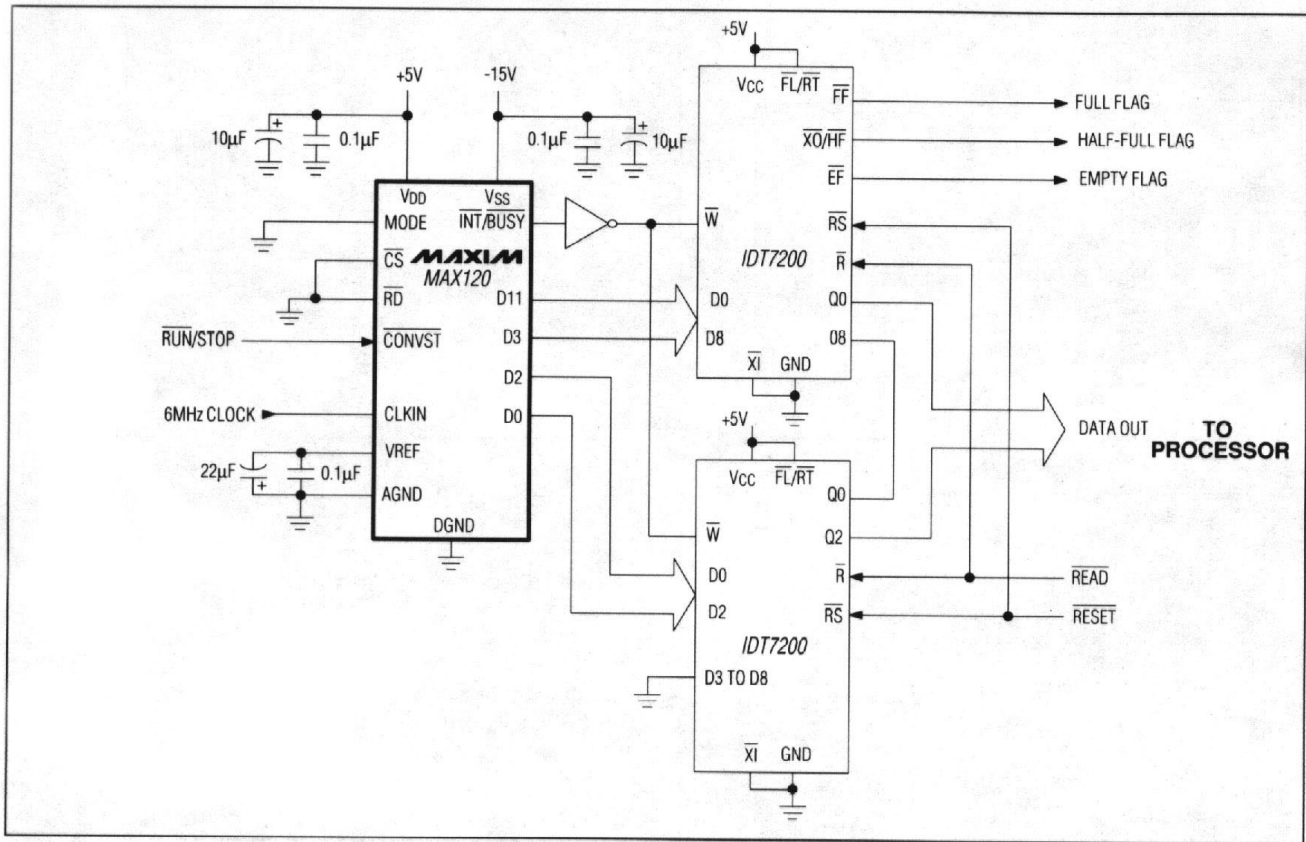

Figure 13. Using MAX120 with FIFO Memory
Using FIFO memory to buffer blocks of data from the MAX120 reduces μ P interrupt overhead time by enabling the μ P to process data while the MAX120, unassisted, writes conversion results to the FIFO. To retrieve a block of data, the μ P reads from the FIFO via a read-interrupt cycle. Read and write operations for the FIFO are completely asynchronous. Figure 13 shows the MAX120 operating in continuous-conversion mode (mode 5), writing data directly into the two IDT7200 256 x 9 FIFO buffers at the rate of 428kps. The μ P is interrupted to read the accumulated data by the FIFO's half-full (HF) flag approximately three times per millisecond. For operation at 500kps, use an 8MHz clock, and pulse \overline{CONVST} at 500kHz. The full flag (FF) indicates that the FIFO is full. If this flag is ignored, data may be lost. If necessary, conversions can be inhibited by pulling \overline{CS} , \overline{RD} , or \overline{CONVST} high. The FIFO's read cycle times are as fast as 15ns, satisfying most system speed requirements. The RESET input resets all data in the FIFO to zero.